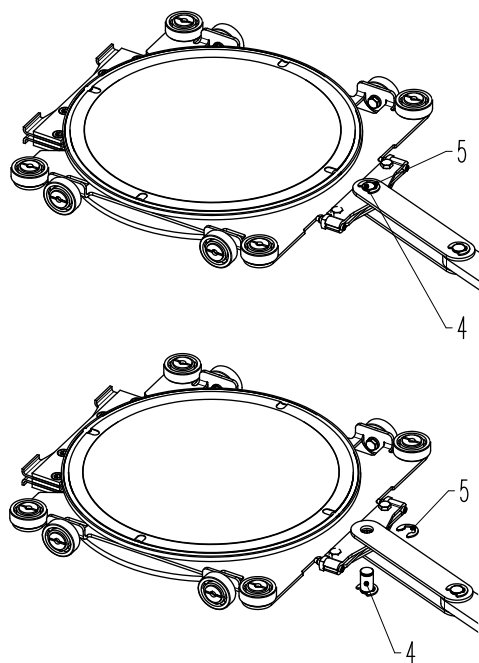

Figure 7-3
9. Remove locking ring (5) according to «Figure 7-3» on page 19.
10. Withdraw bolt (4) by pulling it downwards according to «Figure 7-3» on page 19.
13. Mount bolt (4) according to «Figure 7-3» on page 19.
14. Mount locking ring (5) according to «Figure 7-3» on page 19.